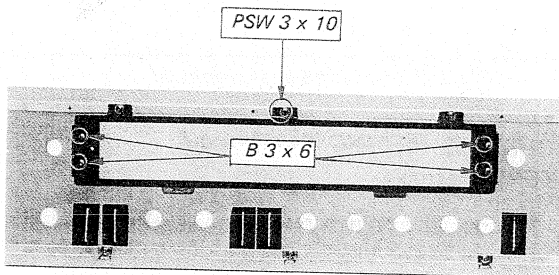

Fig. 2-9. Dial glass removal
2. Remove the five screws shown in Fig. 2-9.